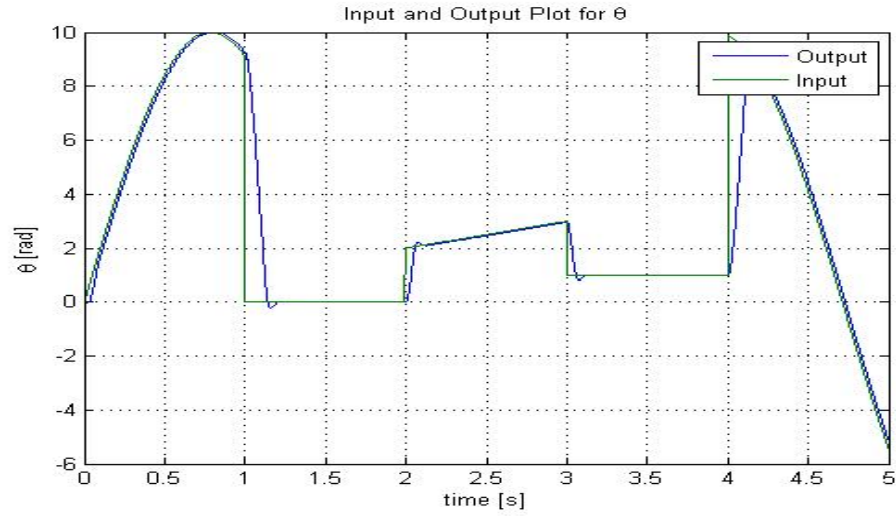

Figure 3.3: Input and output of the system for a square wave function, with  $K_P = 7$ ,  $K_I = \frac{1}{125}$ , and  $K_D = \frac{1}{93}$
5. Figure 3.3 uses a PID controller with the optimal values for  $K_P$ ,  $K_I$ , and  $K_D$ , and the reference trajectory is generated by the **Multiport Switch** in Simulink.